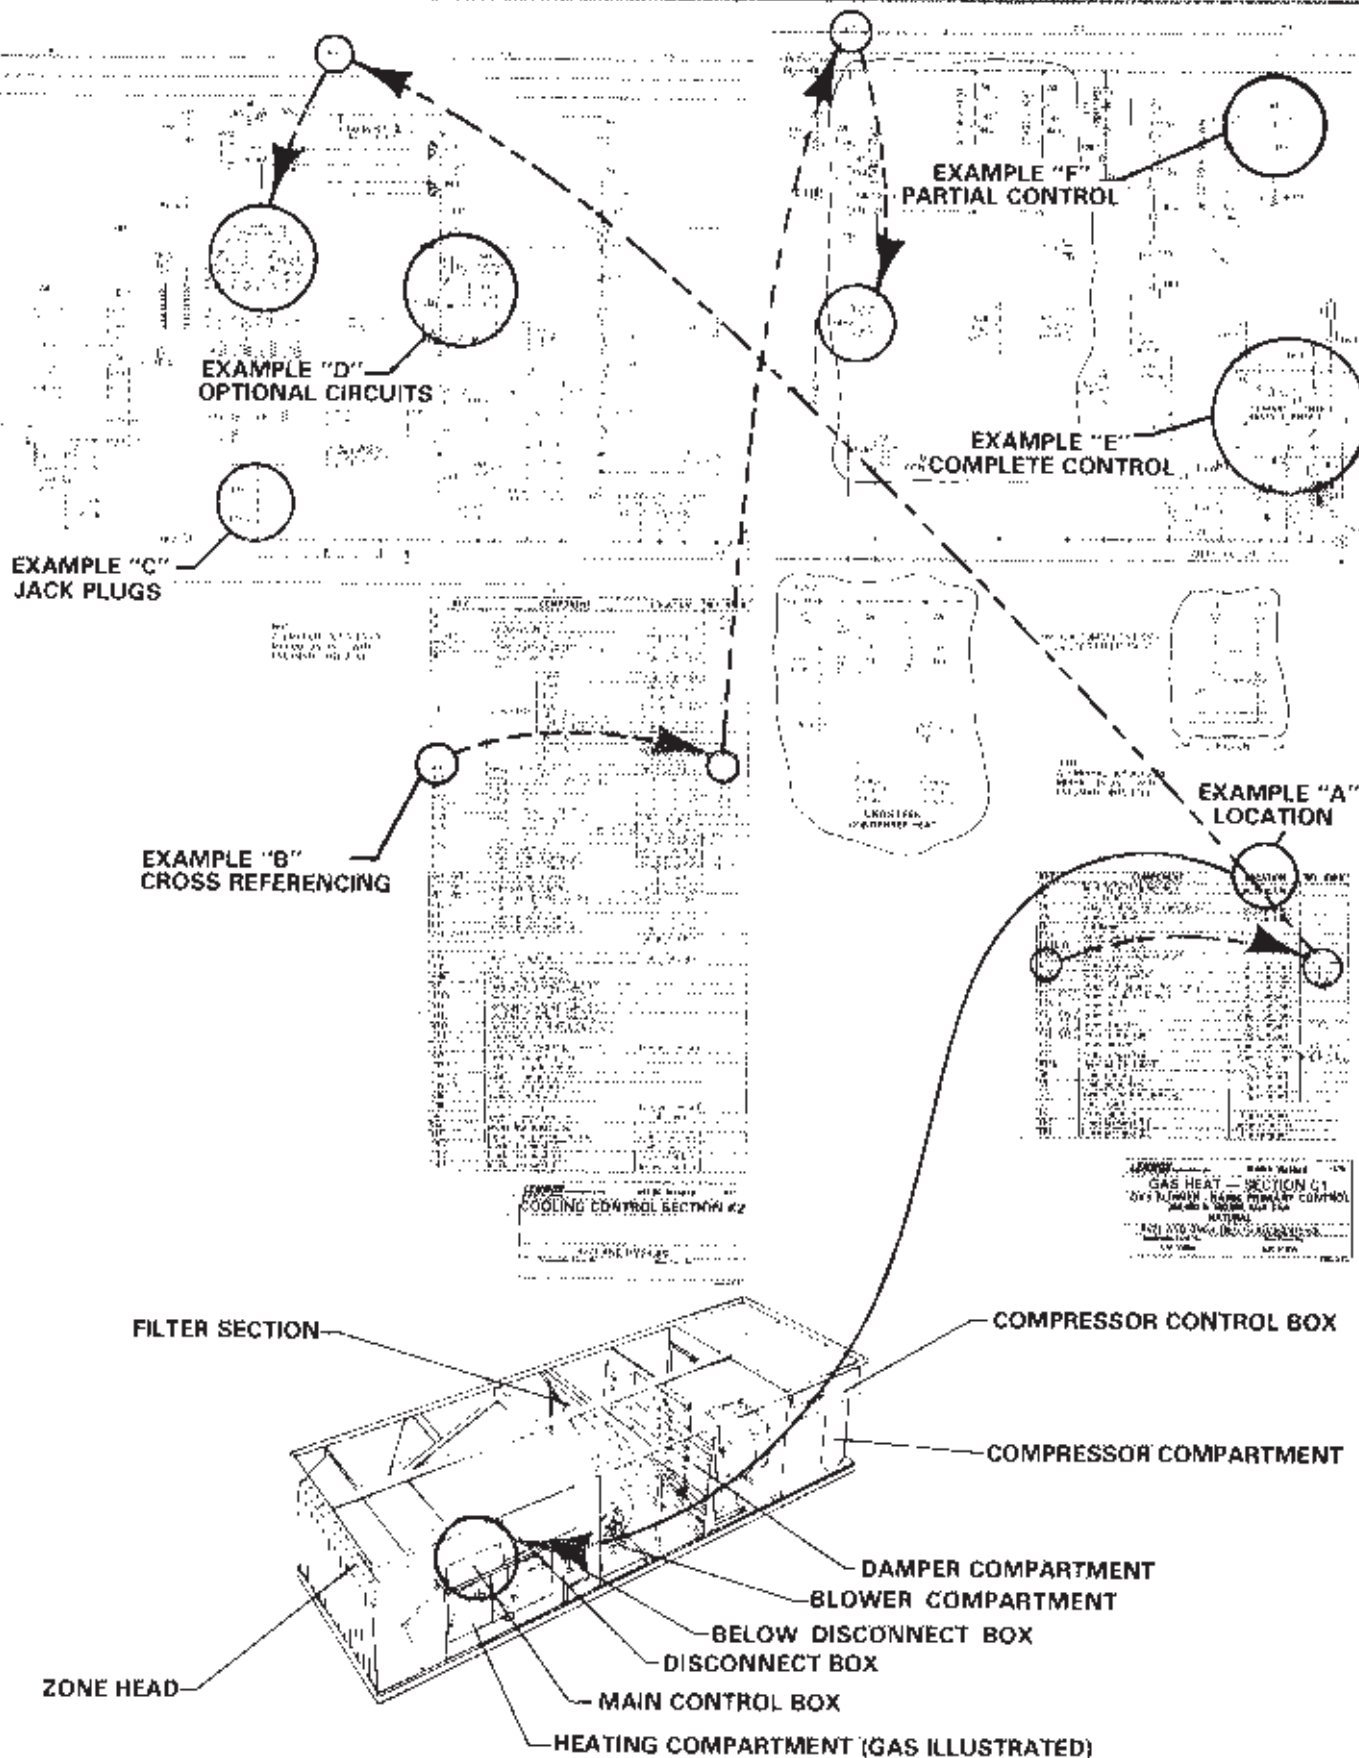

FIGURE 24
- Location of component. See Example A in Figure 24
- Cross reference to other diagram sections. See Example B in Figure 24.
- 5 Jack plugs are shown in the schematic circuit by both jack plug number and terminal number. In Example C of Figure 24, JP17-2 indicates jack plug number 17 and terminal number 2.